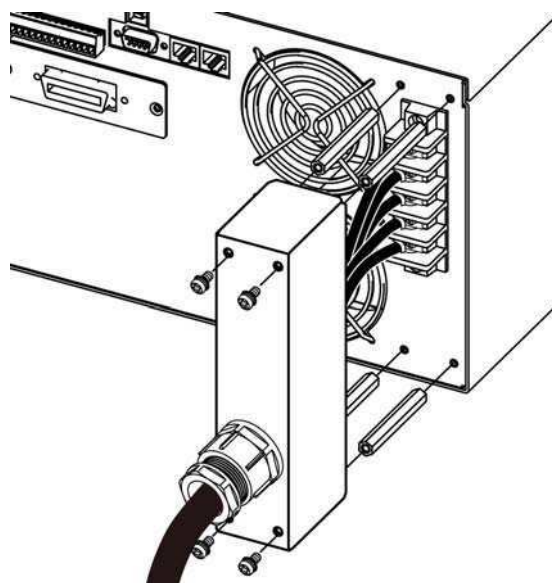

Figure 2-7 Assembling 62050P Input Terminal Safety Cover - 3
- c. Install the 4 copper pillars on the rear panel and secure the power terminal on the input terminal socket with Phillips screws as well as the safety cover as Figure 2-7 shows to prevent from electric shock.